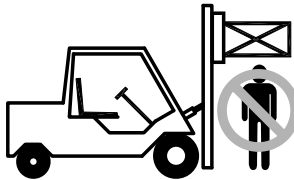

Figure 3-2,
- Never allow anyone under a load or under the carriage. (Figure 3-2)